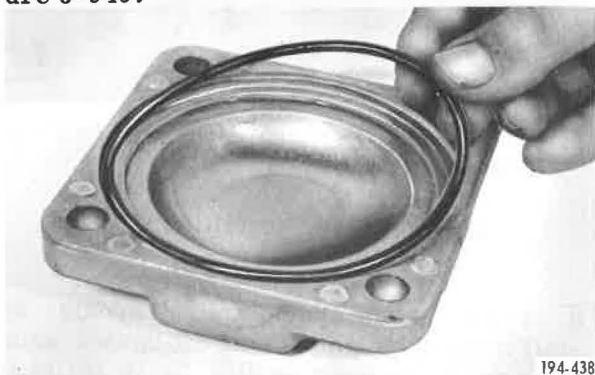

Figure 5-949. Installing O-Ring
10. Install O-ring in each of three front countershaft front bearing covers. See Figure 5-949.